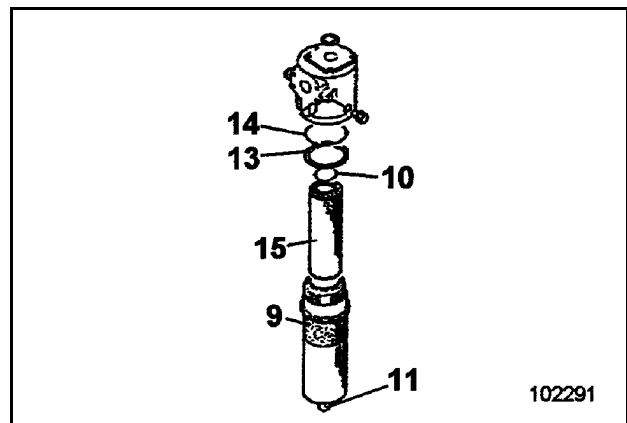

Fig. 3-93:
- Unscrew drain plug (11, Fig. 3-93:) and drain the hydraulic oil from the filter housing (9). (Place a suitable resilient under the filter housing).
- Unscrew filter housing (9).
- Disengage filter element (15) with a slight turn from its retaining catch and withdraw from filter housing (9).
- Clean filter element (15) in white spirit or paraffin oil.
- Replace filter element (15) if it is damaged.
- Clean filter housing (9, Fig. 3-93:) and the sealing faces at the filter head with white spirit or paraffin oil.
- Insert new filter element into filter housing (9) and refit to the filter head with new, lightly oiled sealing rings (10 and 14) and a new retaining ring (13).